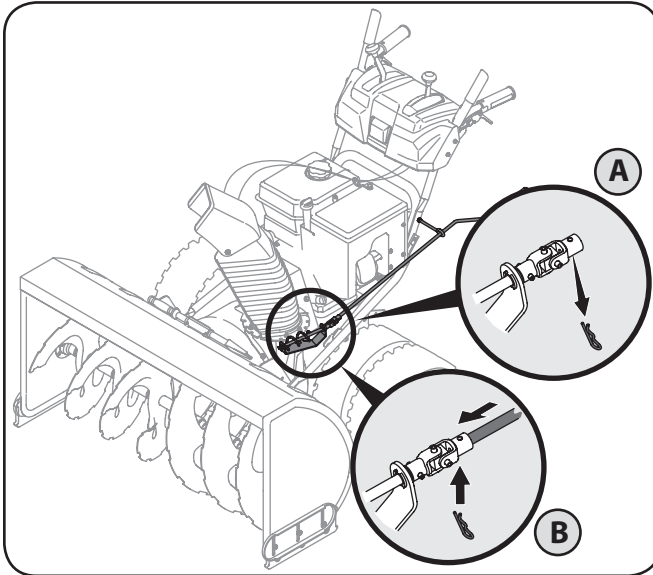

Figure 3-4
1. Remove the hairpin clip from the spiral control as shown in A of Figure 3-4.
2. Insert the chute directional control rod into the fitting on the spiral control as seen in B of Figure 3-4.